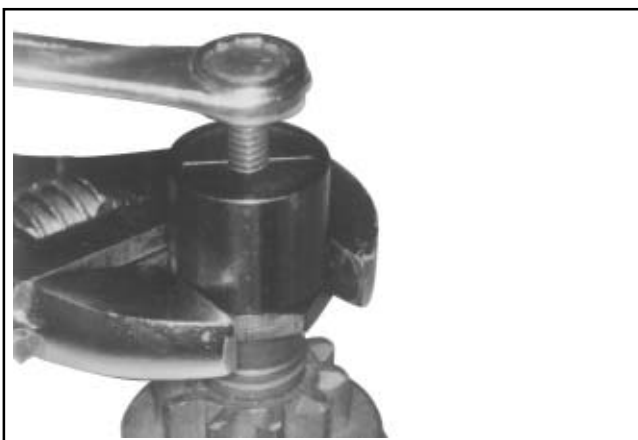

Figure 8-33. Holding Tool and Turning Center Screw (Clockwise) to Remove Retaining Ring.
5. Thread the center screw into the removal tool until you feel resistance. Use a wrench (1-1/8" or adjustable) to hold the base of the removal tool. Use another wrench or socket (1/2" or 13 mm) to turn the center screw clockwise (see Figure 8-33). The resistance against the center screw will tell you when the retaining ring has popped out of the groove in the armature shaft.